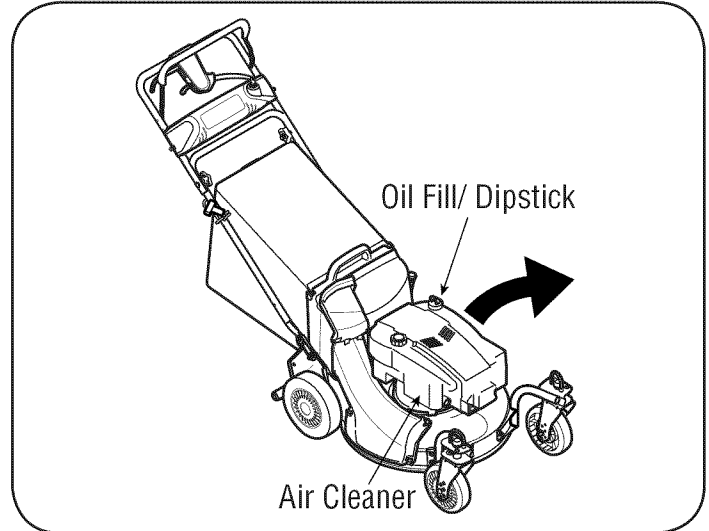

Figure 14
3. Tip the mower, keeping the air cleaner above the oil fill. See Figure 14.